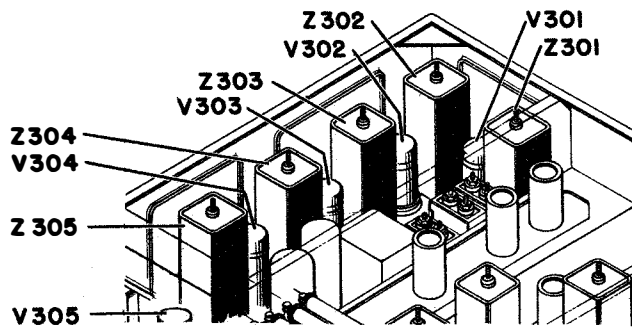

Figure 1-6. Intermediate-Frequency Amplifier
(3) INTERMEDIATE-FREQUENCY AMPLIFIER.—The intermediate-frequency amplifier, shown in Figure 1-6, is assembled in the receiver chassis, the smaller circuit components being located beneath the chassis section on which the intermediate-frequency transformers and tube sockets are mounted.